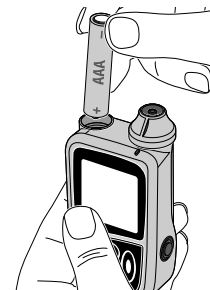

Figure 4
2. Insert one AAA (IEC LR03) alkaline battery into the compartment, making sure the + side goes in first (see Figure 4); if you insert the battery wrong, the pump will not start.